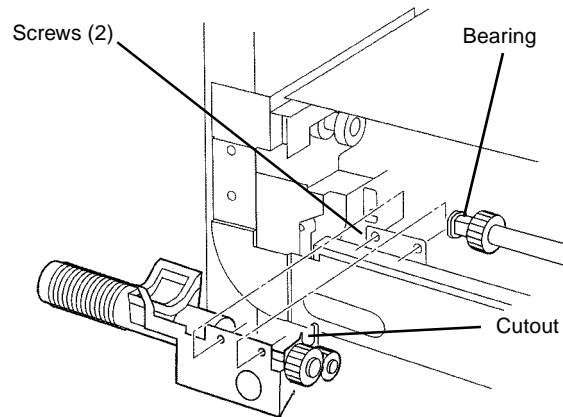

Figure 1 Removing Waste Toner Agitator
7. Remove Waste Toner Agitator (Figure 1).
- a. Remove Screws (2).